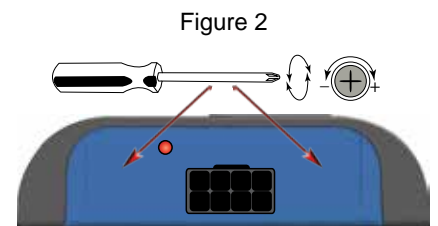

Figure 2
4. Slowly adjust level on LP7-2 until you reach the target voltage of the amplifier. (figure 2)
3. Slowly adjust front channel gain of LP7-2 until just a hint of distortion is audible, and then back down gain just under that threshold and the distortion goes away. (figure 2)